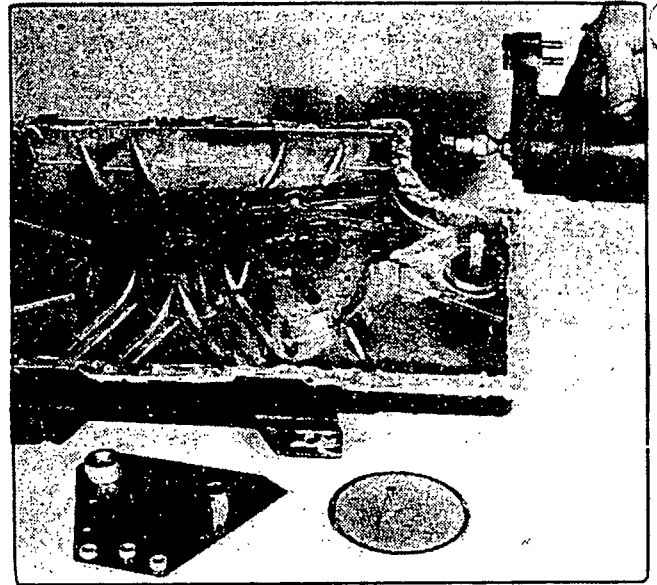

Figure 15
Remove (3) 1/4-20 screws attaching oil filter support to sump. Remove oil pump cover and inspect oil pump gears and casting for wear. Replace gears, and/or entire sump if necessary. See Figure 15.